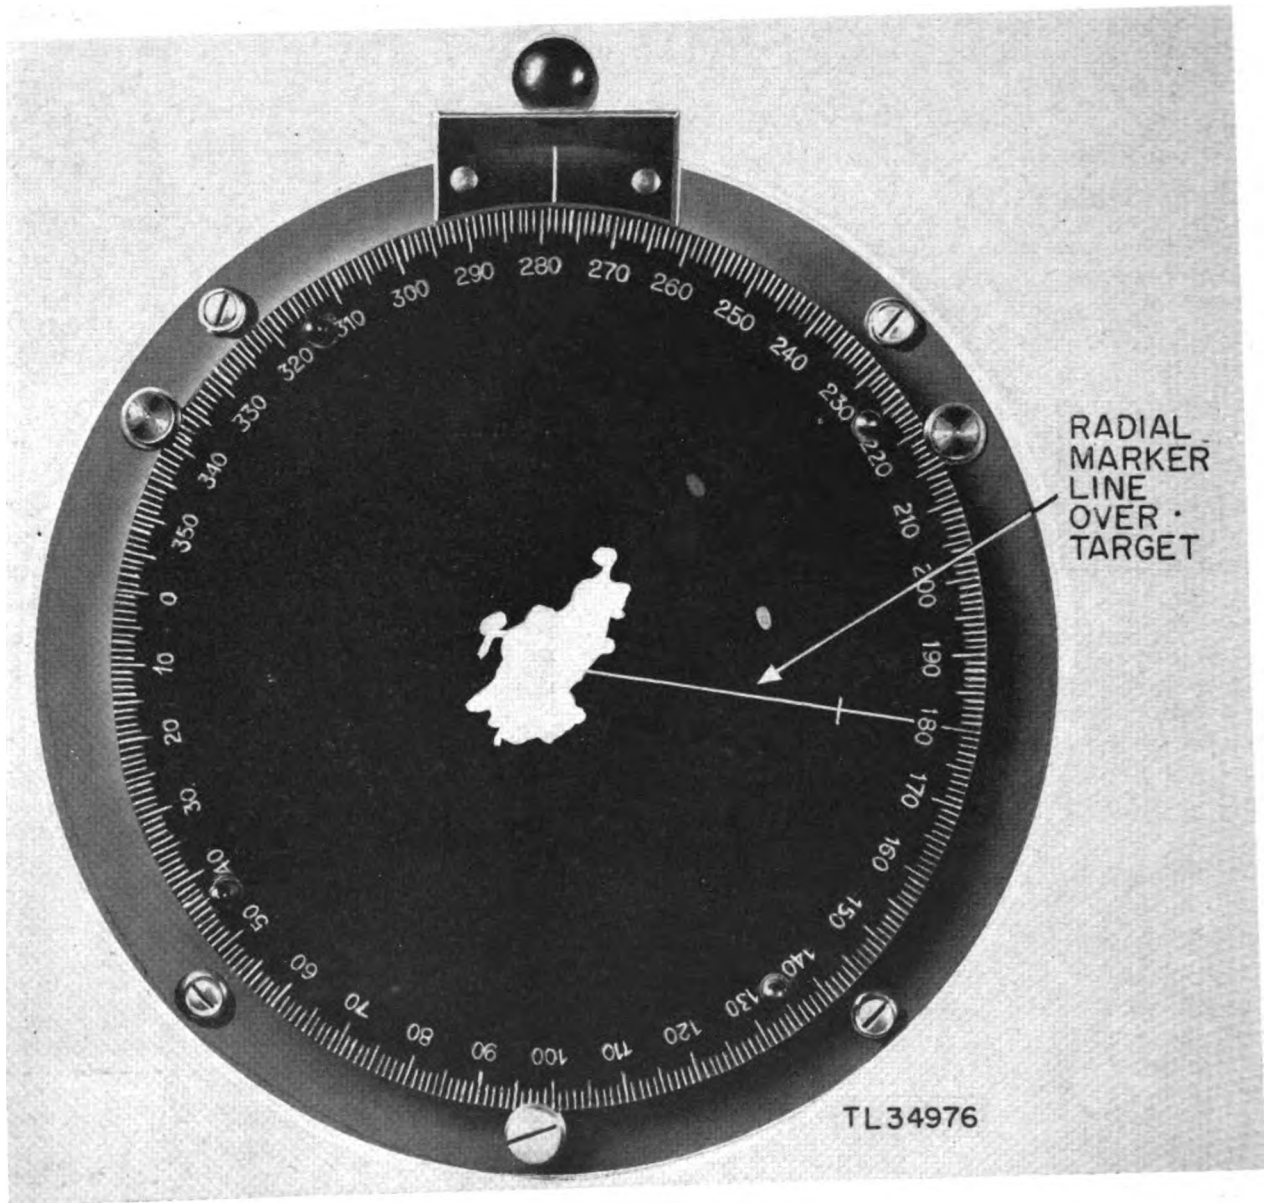

Figure 46. Reading azimuth on PPI scope.
a. In the first method of determining a target's azimuth, the PPI scope is used while the antenna is allowed to rotate in automatic scan. The face of the PPI scope is provided with a transparent shield or disc calibrated along its outer edge into 360 divisions of one degree each (fig. 46). On the surface of the shield is drawn a radial line extending outwards from the center. The shield can be rotated by means of the four small projections on its outer rim. In determining the azimuth of the target, the shield is rotated until the radial line passes exactly through the center of the target
echo. The azimuth angle is read from the degree scale along the edge of the shield at the point directly beneath the marker. The marker is located on the frame vertically above the center of the oscilloscope. In figure 46, the azimuth reading for the target shown is 282° .